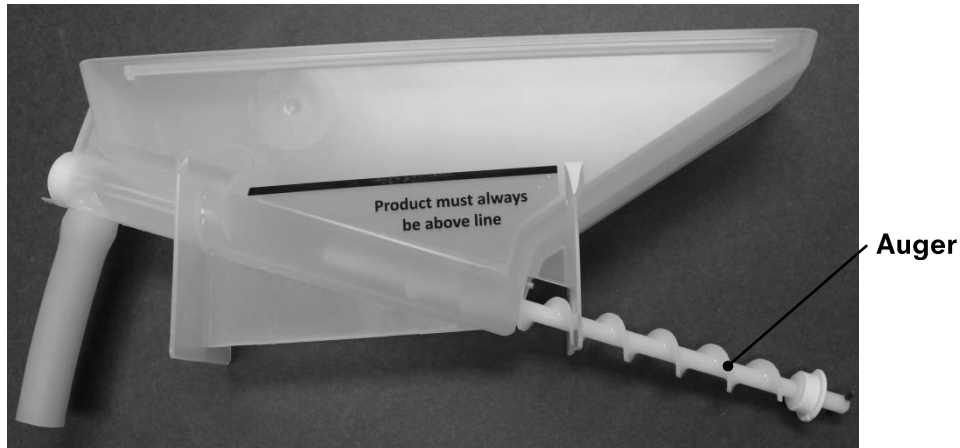

Figure 15: Remove auger from back of hopper
- c. Pull the auger out of the back of the hopper (Figure 15).